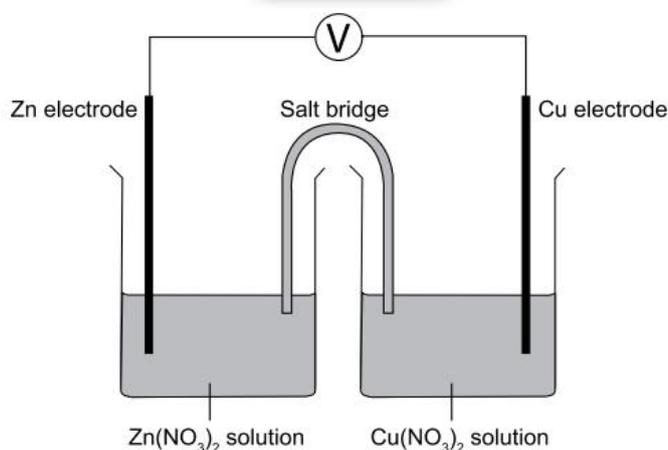

Figure 25.1
3. Soak a folded filter paper in saturated NH₄NO₃ solution and use the wet paper to bridge the solutions in the two beakers as shown in Figure 25.1. Make sure that the ends of the paper dip into the two solutions but are not touching the metal electrodes.
- For each cell constructed, draw a diagram similar to that shown in Figure 25.1. On the diagram: